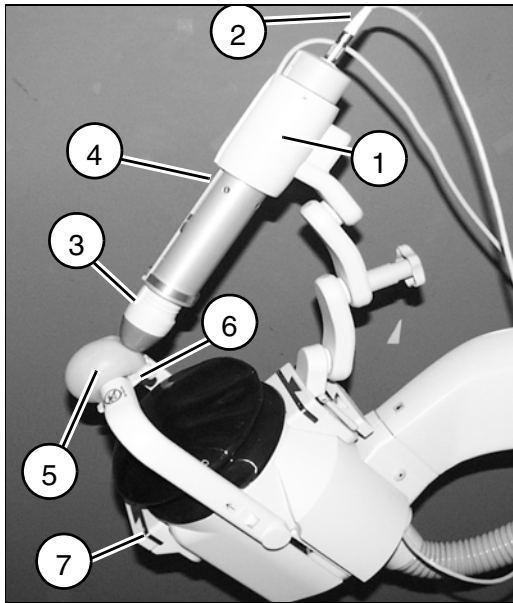
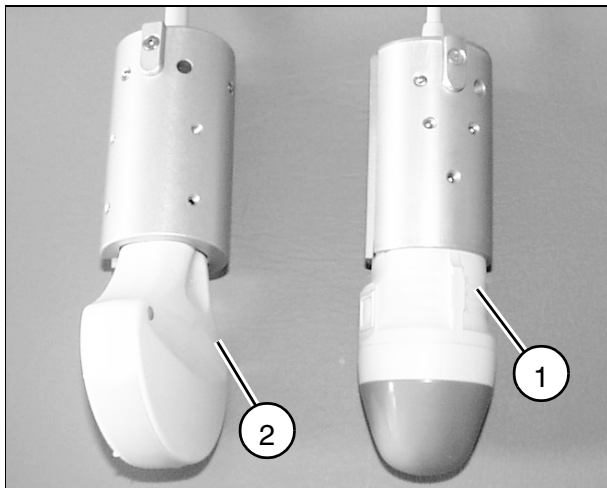

Fig. 1
Fig. 2
- Fit the holder (1/Fig.1). (See also Operating Instructions).
- Insert an ultrasound probe (sector probe (1/Fig. 2) or array probe (2/Fig. 2)) into the holder (3/Fig. 1). Carefully insert the probe lead into the longitudinal groove (4/Fig. 1) .
- Plug in the lead (2/Fig. 1) and connect the probe to the ultrasound unit.
- Fasten the water bladder (5/Fig. 1) with the holding part (6/Fig. 1) to the isocenter phantom.
- Push the probe so far forwards (3/Fig. 1) until the isocenter cross is approximately in the center of the SONOLINE Prima screen.